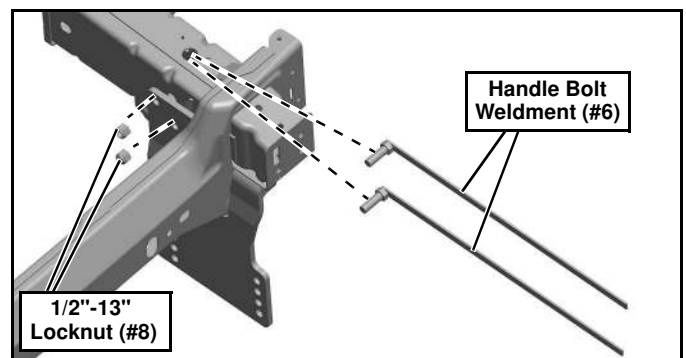

Figure 6
8. Insert a $\frac{1}{2}$ "-13 x 1- $\frac{1}{2}$ " Handle Bolt Weldment (#6) into the frame rail and fasten one of the two holes in the rear side of the Driver Side Mounting Weldment (#2) with a $\frac{1}{2}$ "-13 Locknut (#8) (See Figure 6). Use the hole in the top of the frame rail, just behind the front crossmember to access the inside of the frame. Bend the handle as needed and remove any excess handle sticking out of the frame. Repeat this step once more to fasten the second hole.